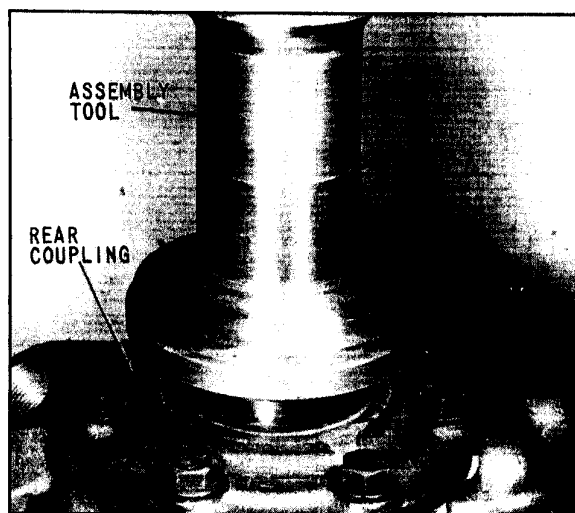

Fig. 32 Pressing Rear Coupling in Place
16. After lubricating the splined portion of coupling, assemble the splined coupling onto the externally splined portion of the output shaft. When the coupling has been aligned squarely on the output shaft and hand assembly has proceeded as far as possible, place a suitable tool on the coupling, (Fig. 32), and gently press the coupling with arbor press until contact with the bearing inner race is made.